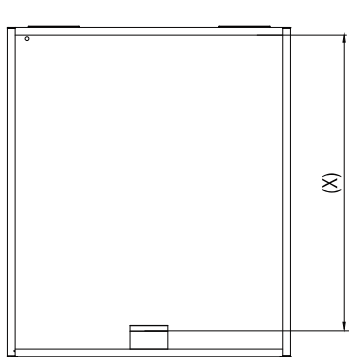

Fig. 3
- 2.1 Measure the distance between the top of two aluminum alloy bars with tape measure is(x)MM(Fig3.) Repeat the operation as shown in 1.2-1.4(Fig.4)